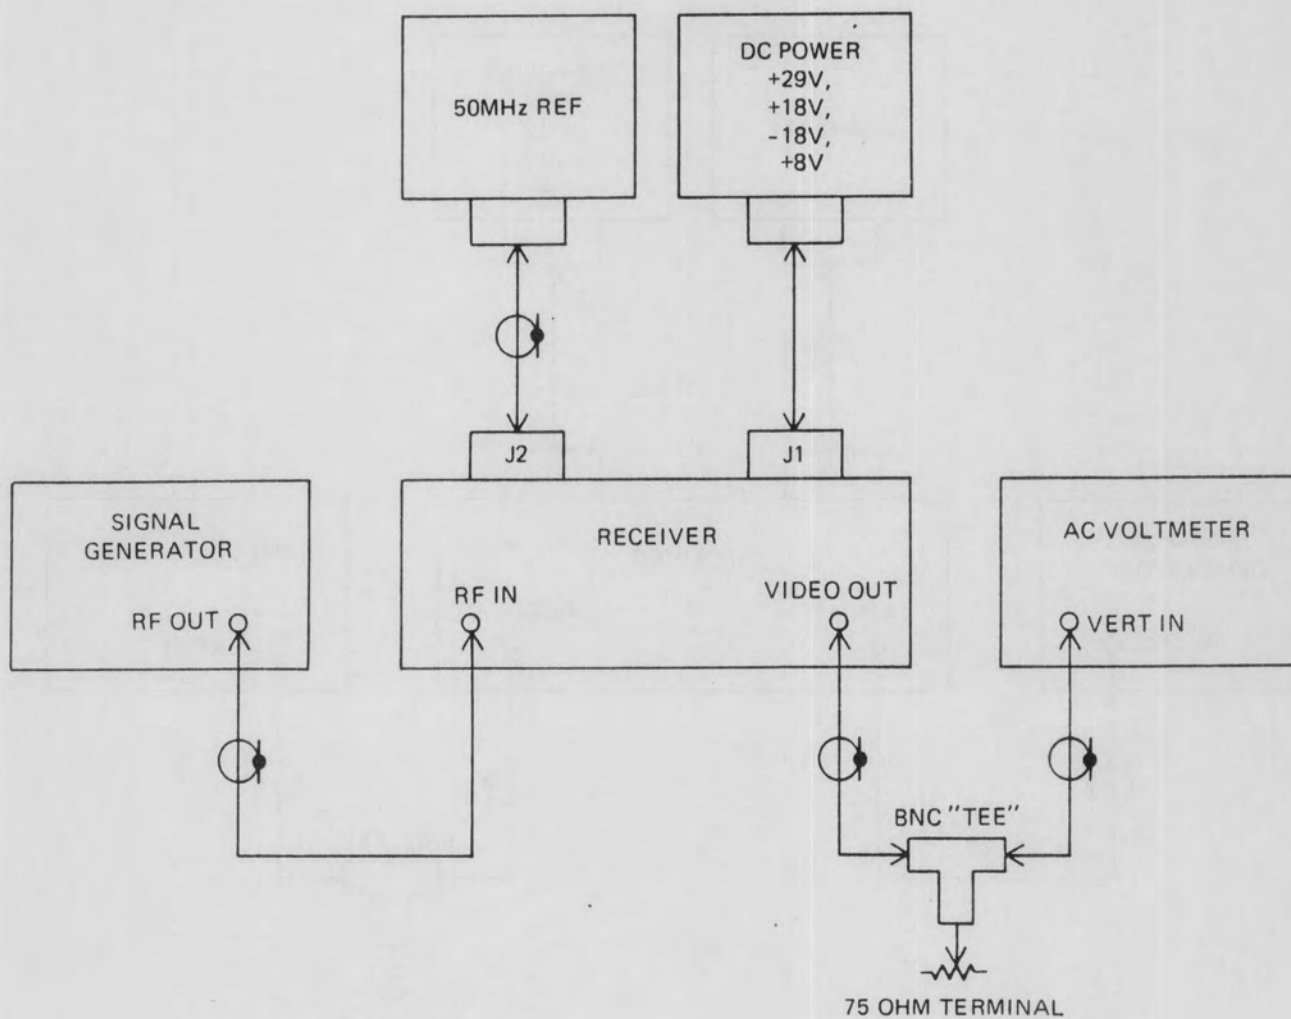

Figure 4-4. SNR Test Equipment Setup
1. Connect the receiver as shown in **Figure 4-4**.